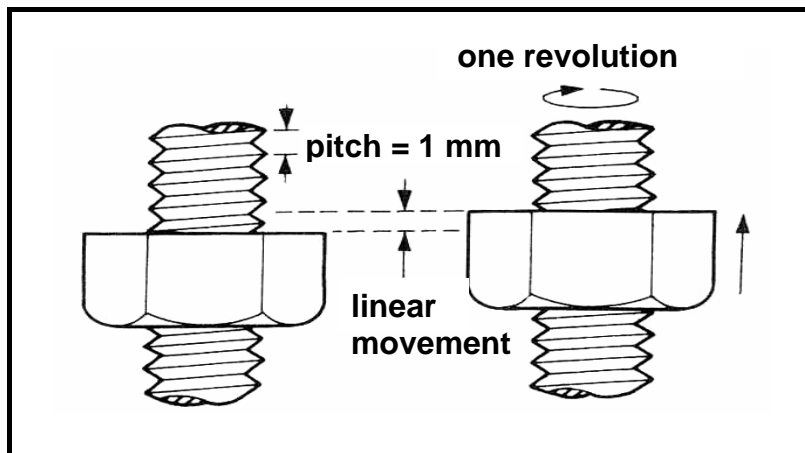

FIGURE 1.7
1.17 FIGURE 1.7 shows a single-start nut and bolt. For each complete rotation of the thread, the nut would move a distance of ...